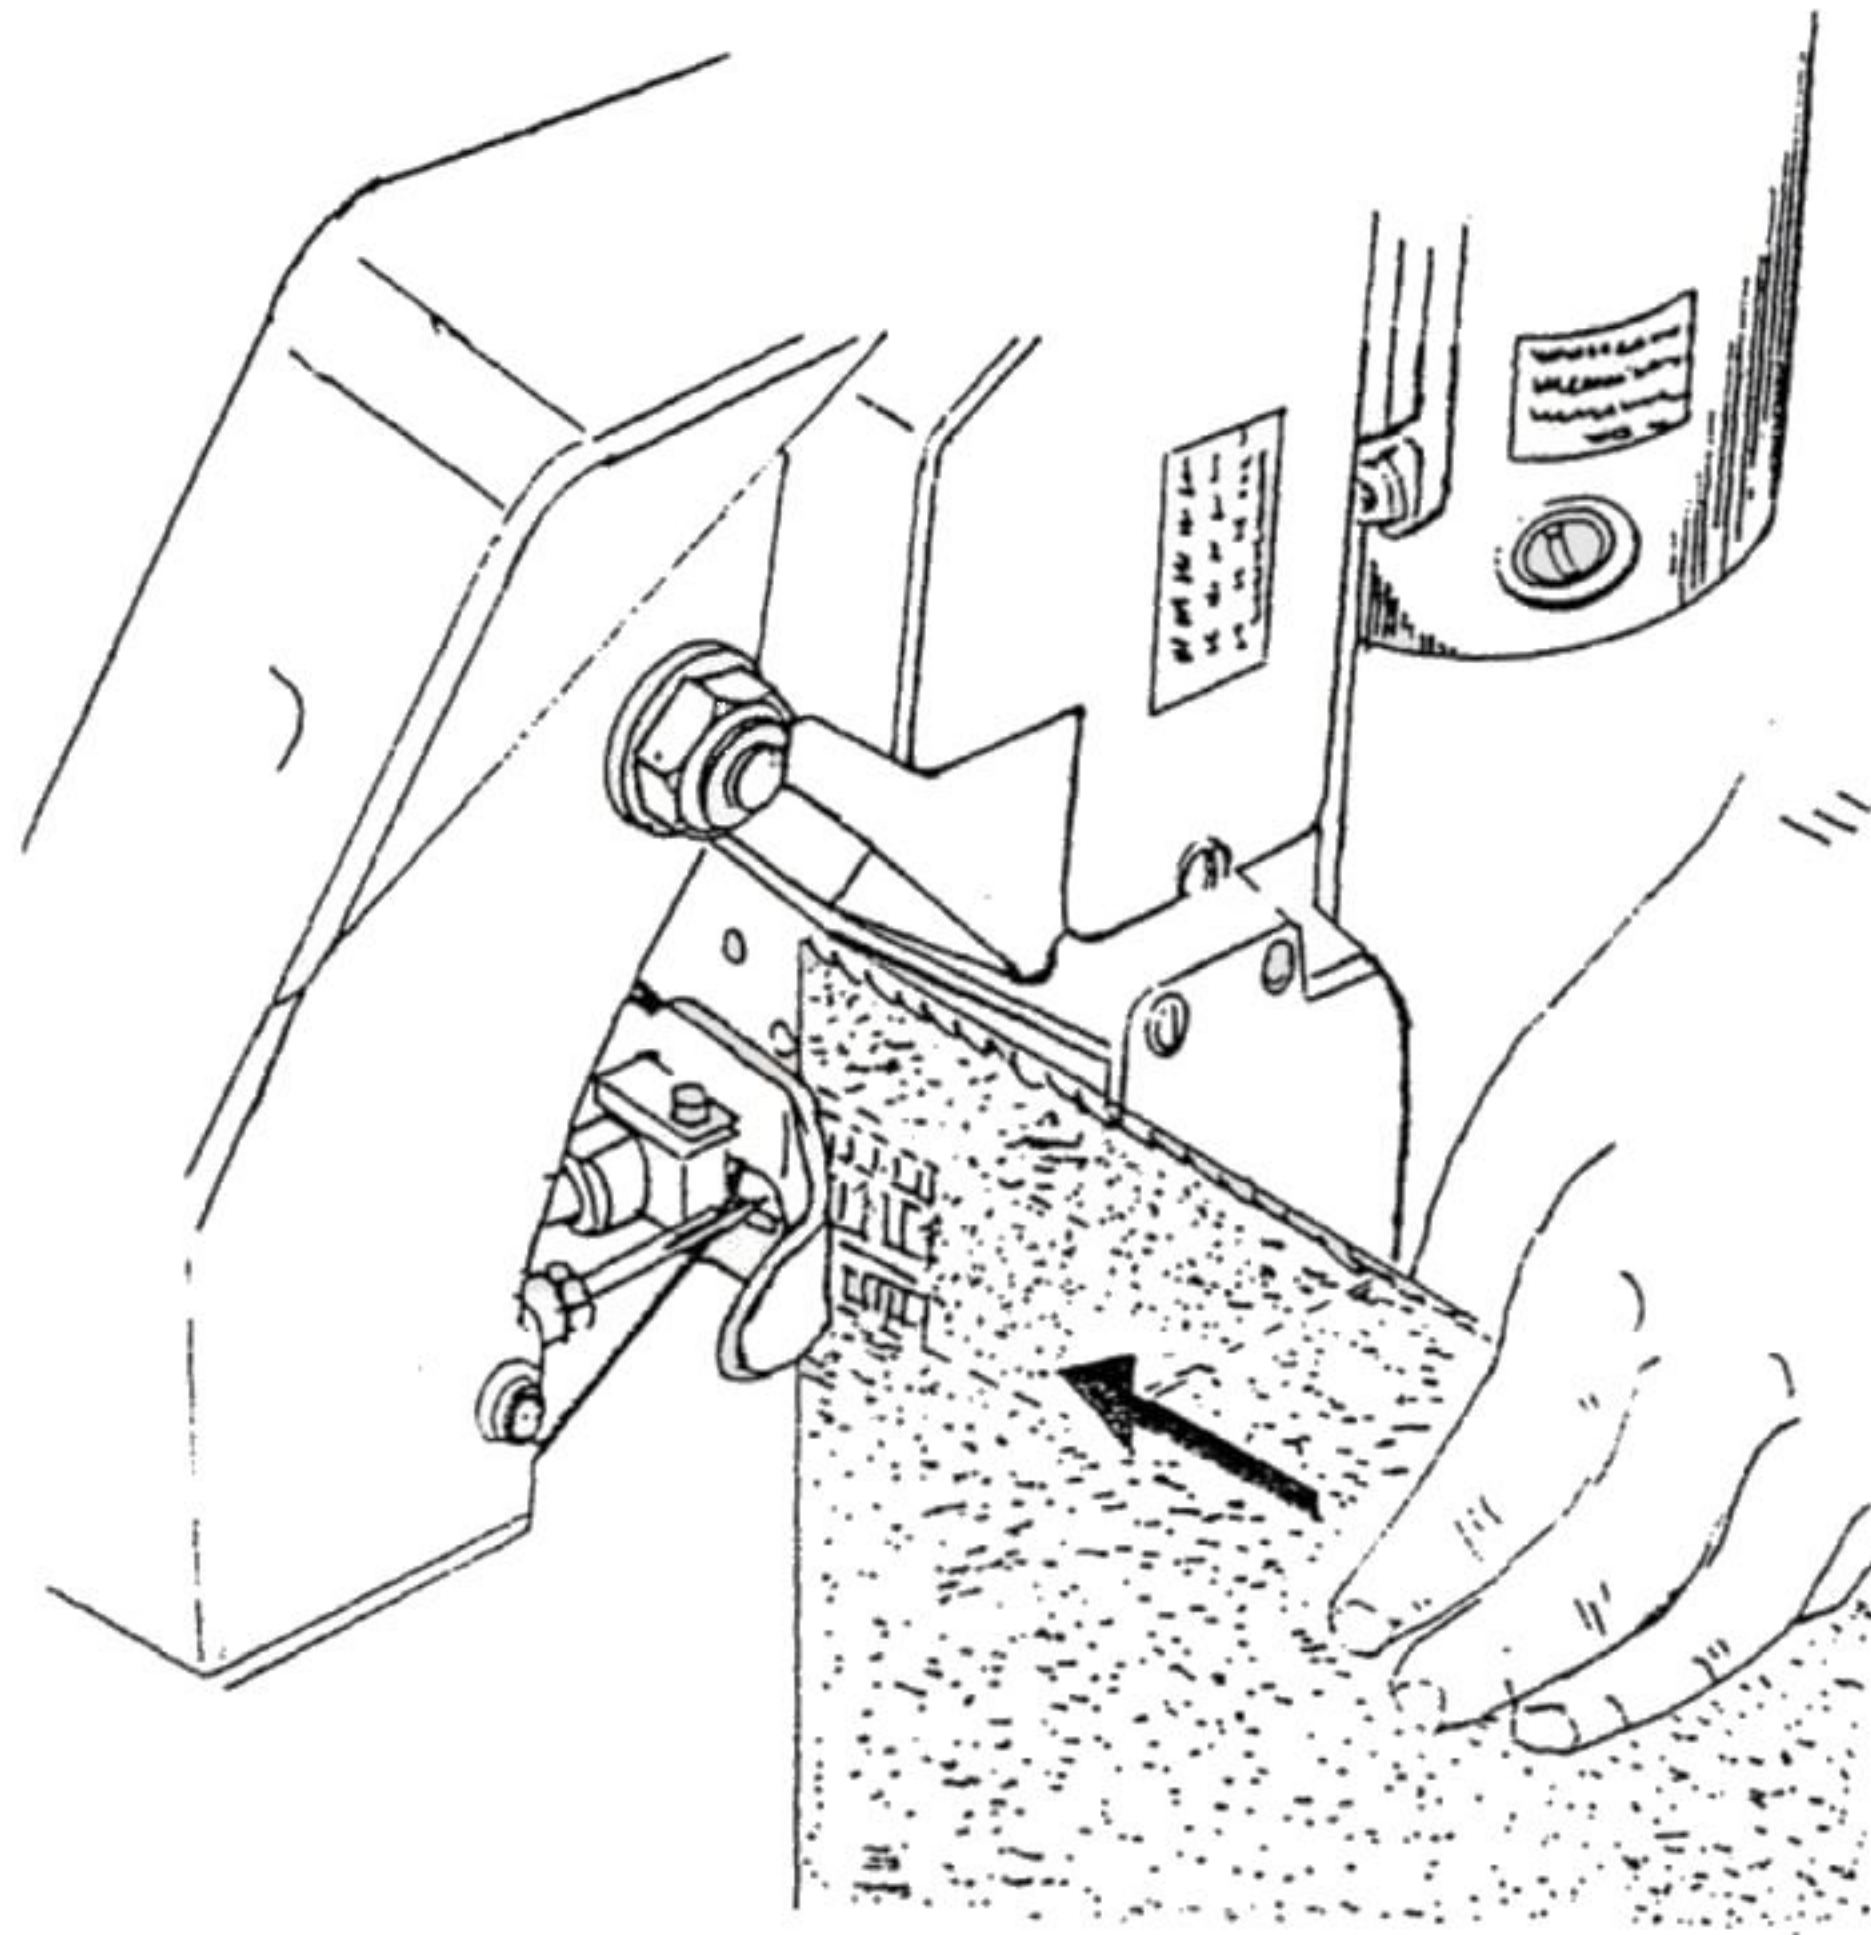
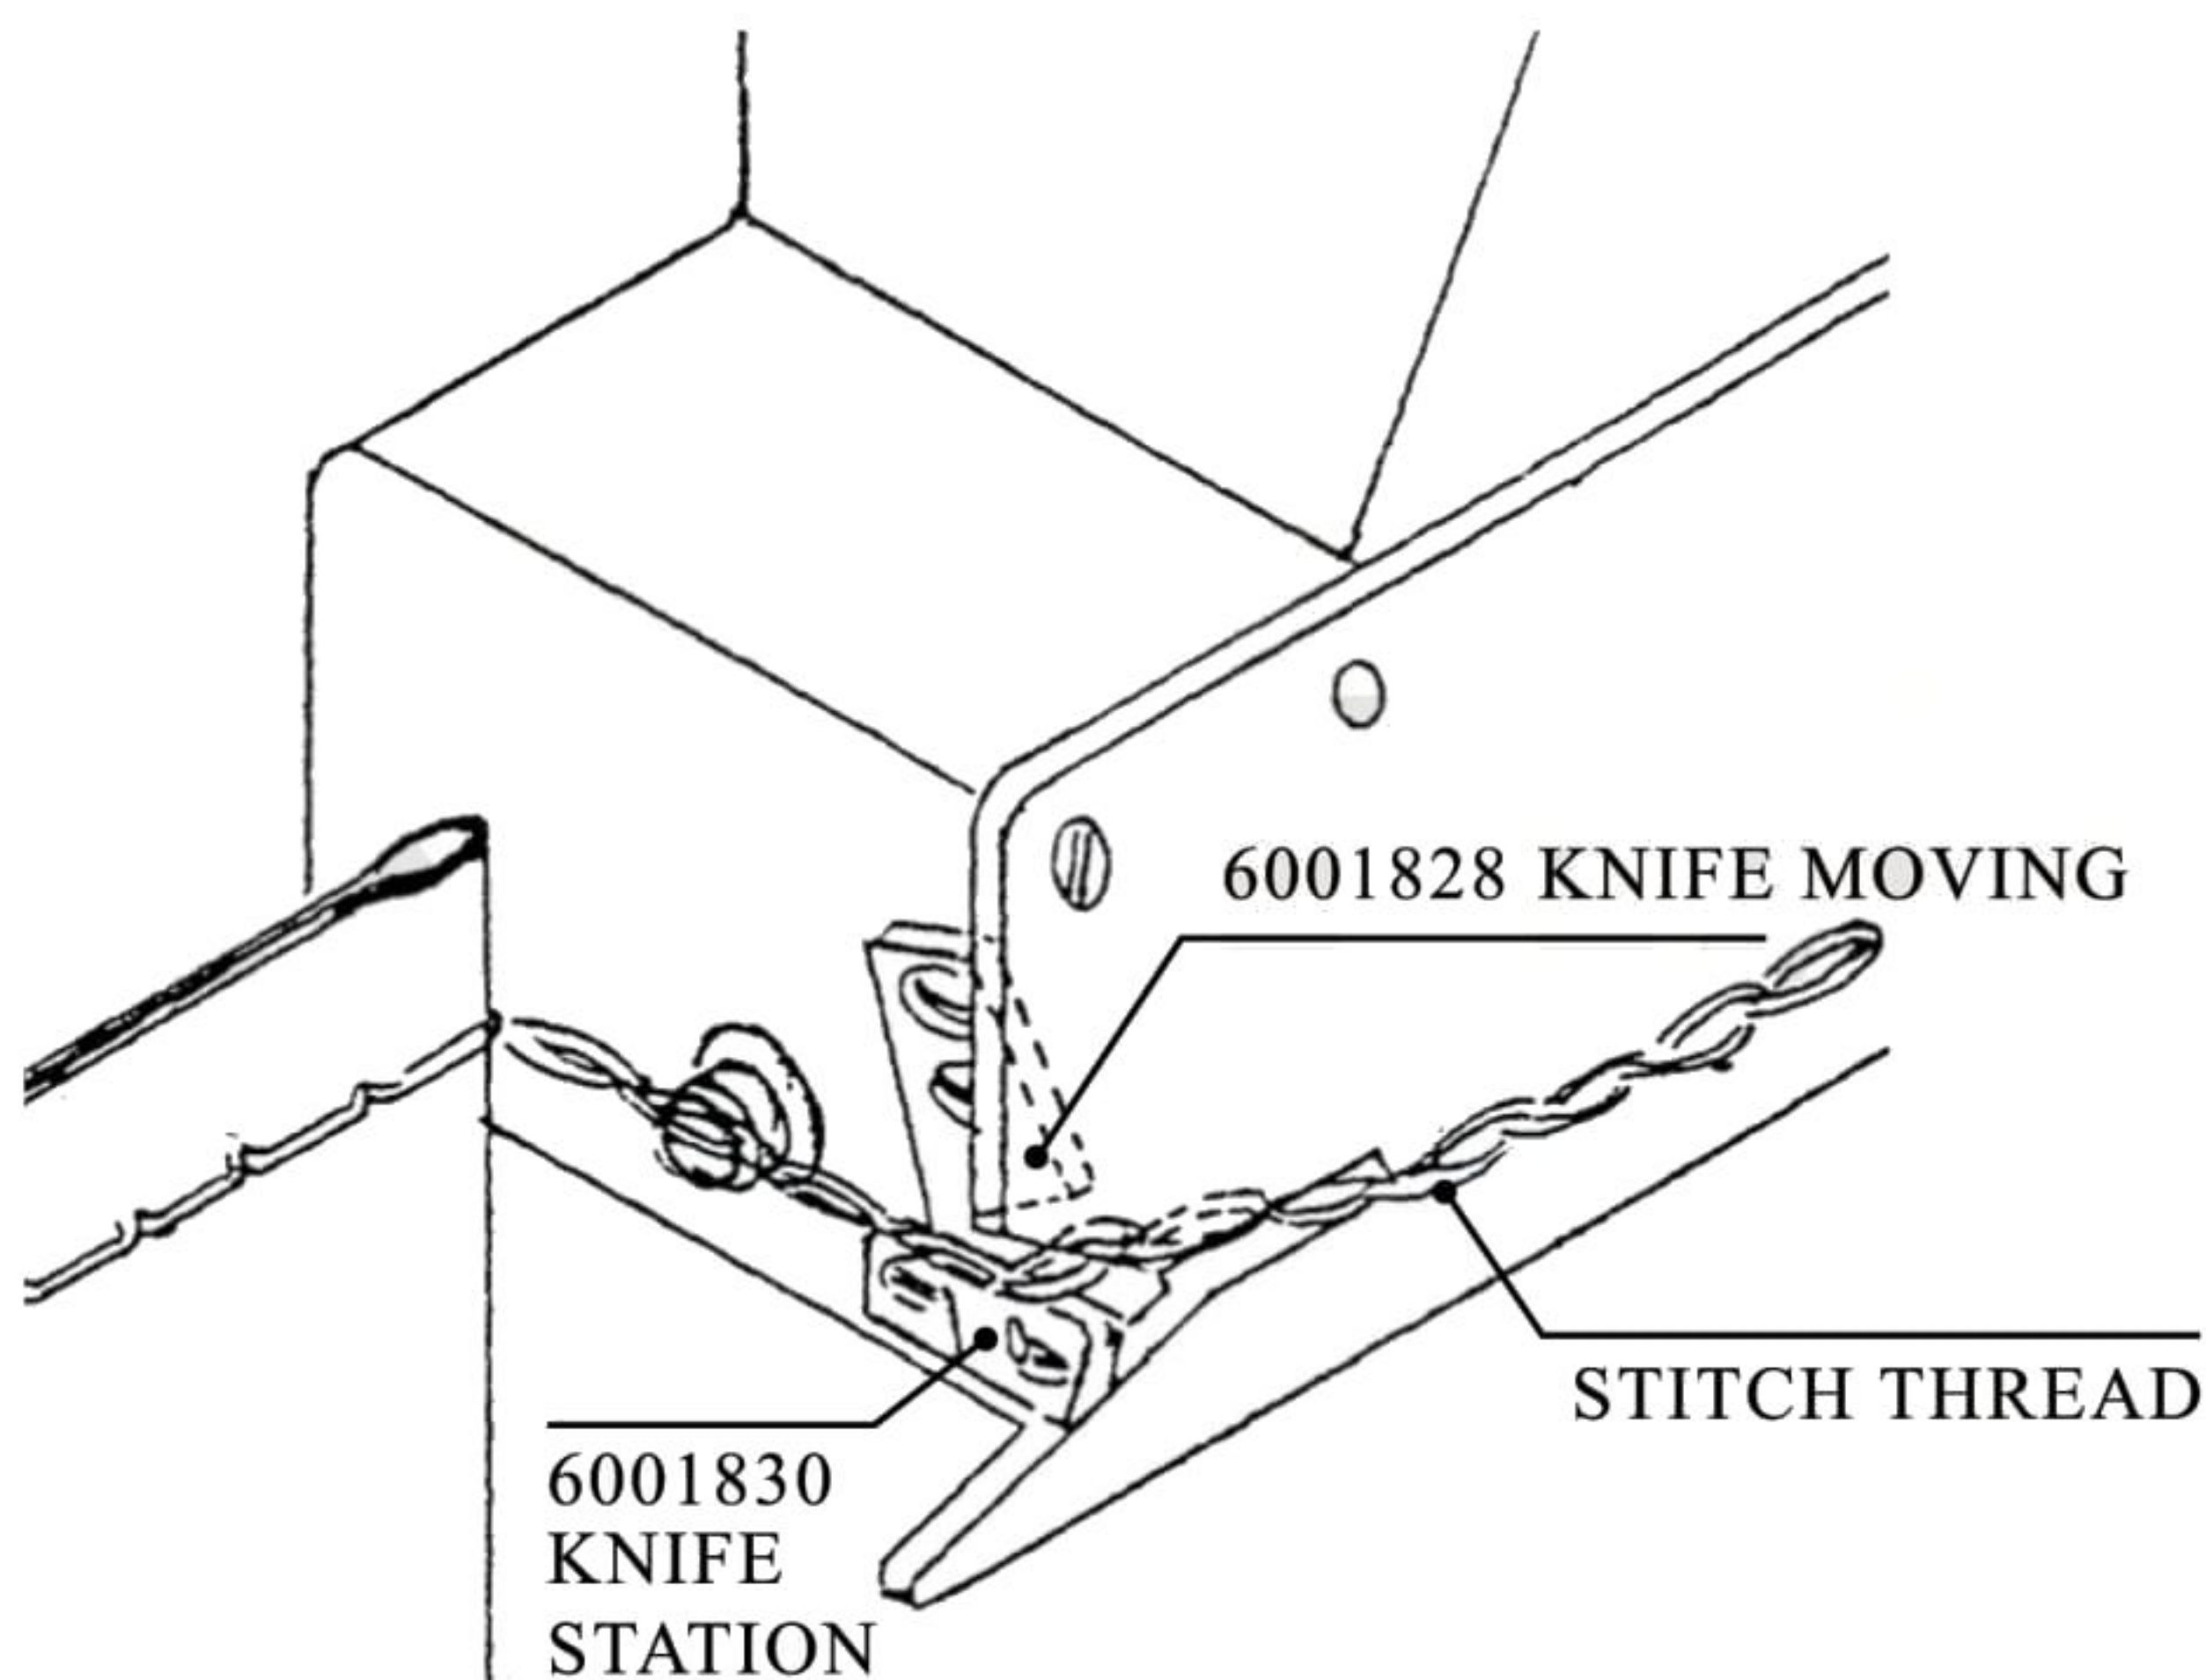

FIG. 05
FIG. 06
B. Sewing Operation. (See also Fig. 05 & Fig. 06)